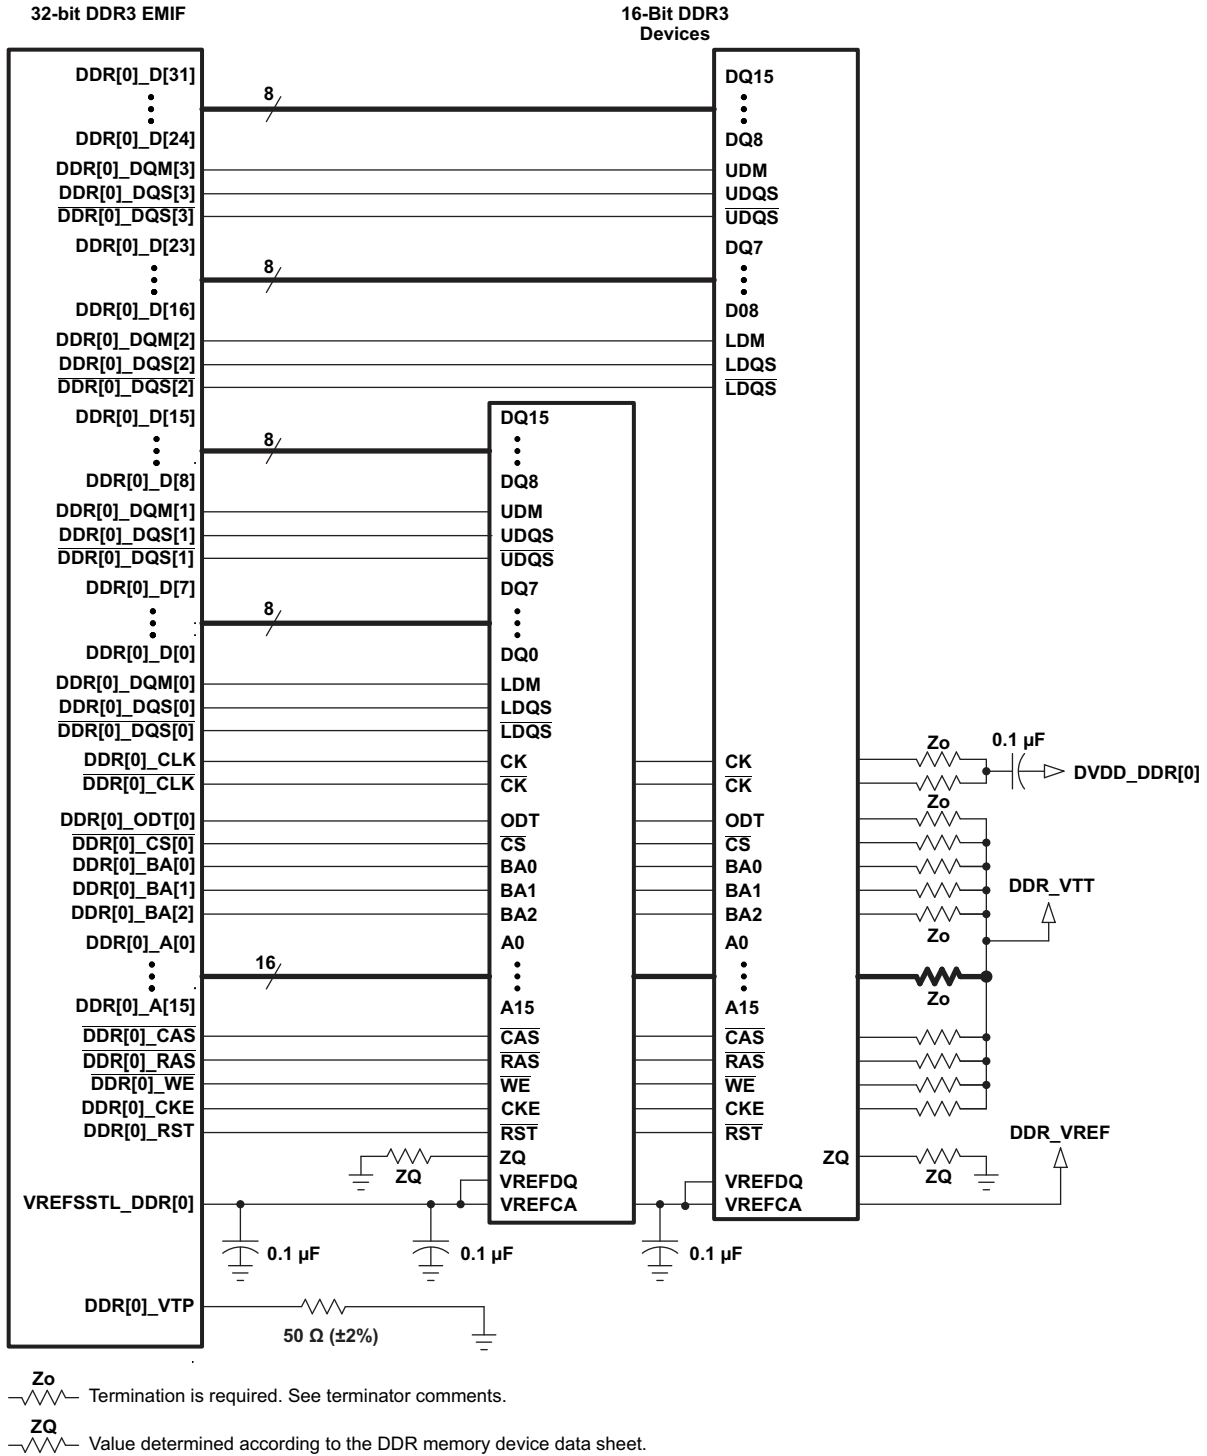
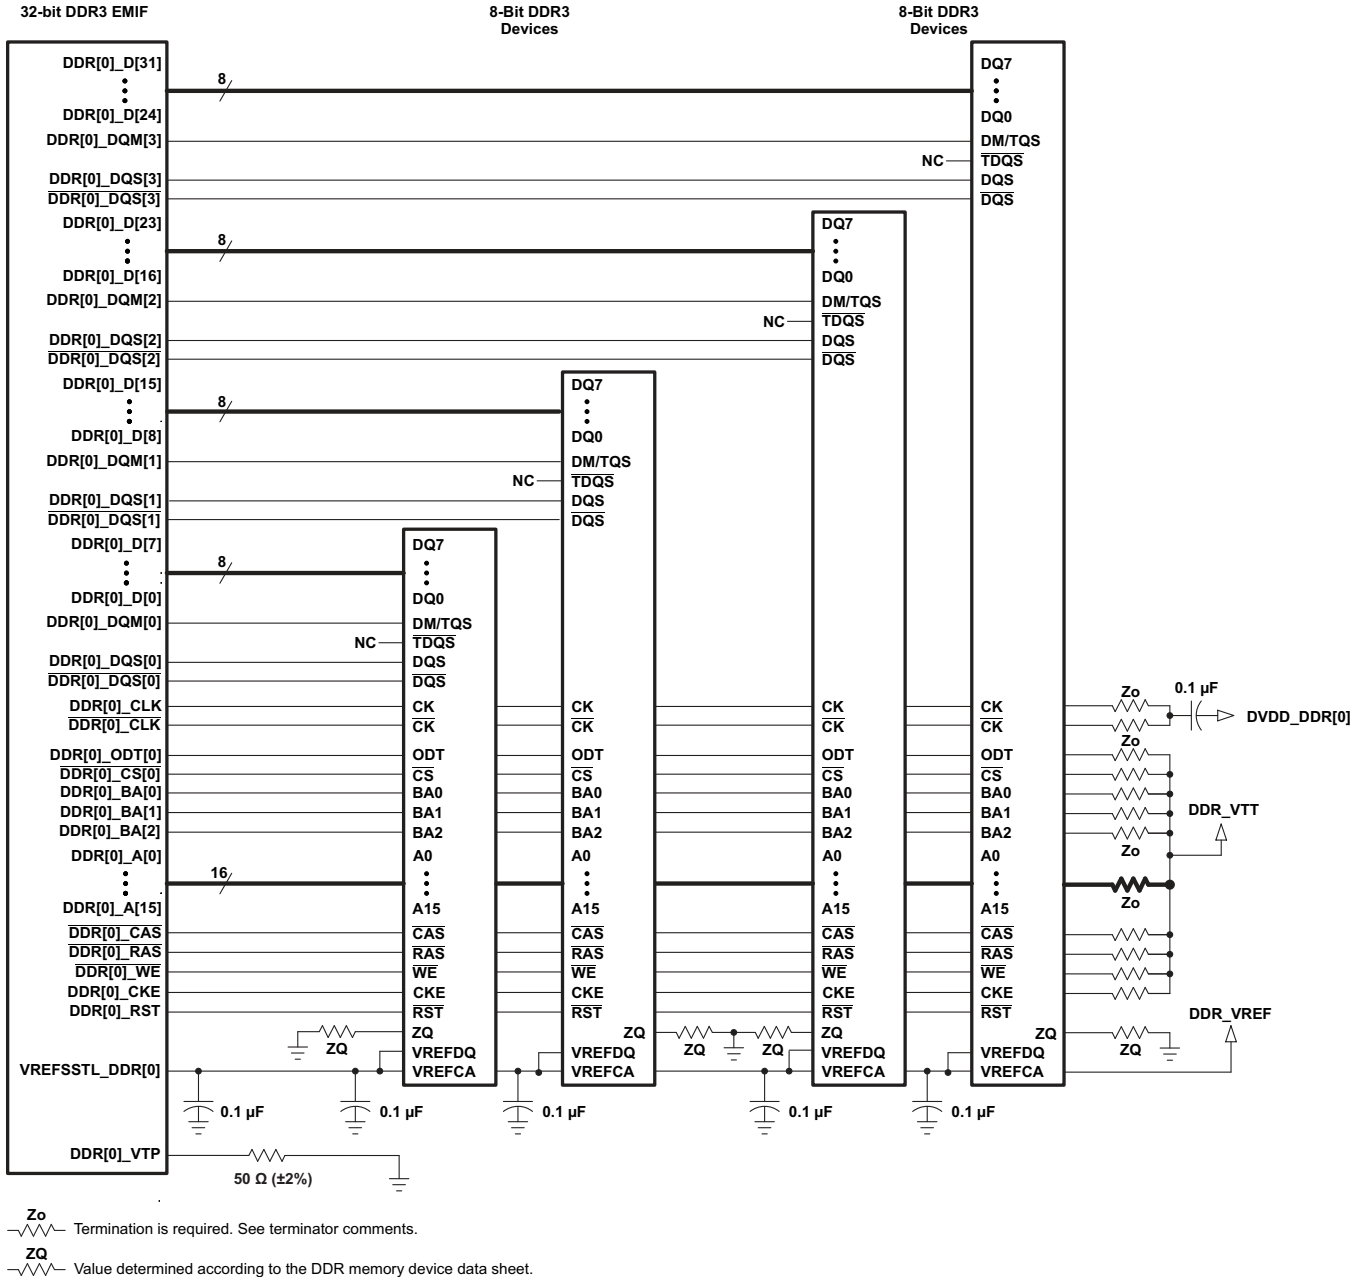

Figure 8-45. 32-Bit, One-Bank DDR3 Interface Schematic Using Two 16-Bit DDR3 Devices
Figure 8-46. 32-Bit, One-Bank DDR3 Interface Schematic Using Four 8-Bit DDR3 Devices
The DDR3 interface schematic varies, depending upon the width of the DDR3 devices used and the width of the bus used (16 or 32 bits). General connectivity is straightforward and very similar. 16-bit DDR devices look like two 8-bit devices. Figure 8-45 and Figure 8-46 show the schematic connections for 32-bit interfaces using x16 devices.
Note that the 16-bit wide interface schematic is practically identical to the 32-bit interface (see Figure 8-45 and Figure 8-46); only the high-word DDR memories are removed and the unused DQS inputs are tied off. The processor `DDR[0]_DQS[2]` and `DDR[0]_DQS[3]` pins should be pulled to the DDR supply via 1-k Ω resistors. Similarly, the `DDR[0]_DQS[2]` and `DDR[0]_DQS[3]` pins should be pulled to ground via 1-k Ω resistors.
(1) DDR3 speed grade depends on desired clock rate. Data rate is 2x the clock rate. For DDR3-800, the clock rate is 400 MHz.
(2) DDR3 devices with higher speed grades are supported; however, max clock rate will still be limited to 533 MHz as stated in Table 8-46 Switching Characteristics Over Recommended Operating Conditions for DDR3 Memory Controller.
(3) For valid DDR3 device configurations and device counts, see Section 8.12.3.3, Figure 8-45, and Figure 8-46.